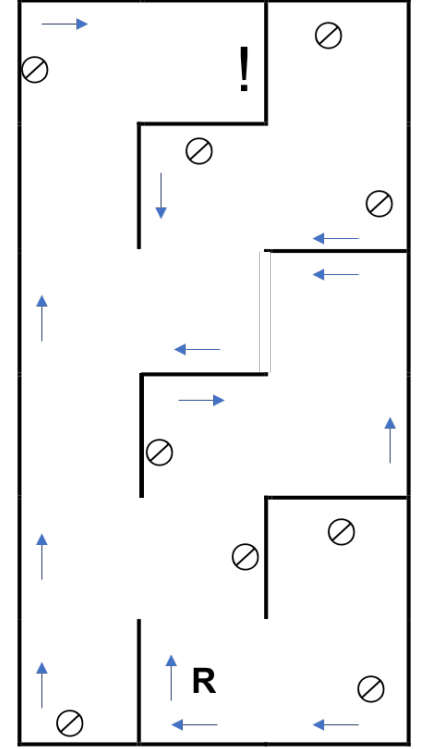

Figure 2
The figure on the right (Figure 2) shows a map of the world that has been created in the lab. For testing, the robot should start in the bottom middle (R), facing south. The goal is in the top middle, facing east. A significant number of signs such as the ones shown in the map will be present to guide the robot to the goal. There will not be a sign on every wall or surface, but all key intersections will have a sign on every adjacent wall.